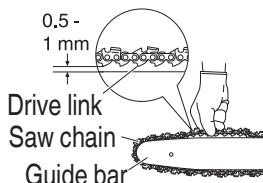

Fig. 15
6. **Checking the saw chain tension (Fig. 15)**